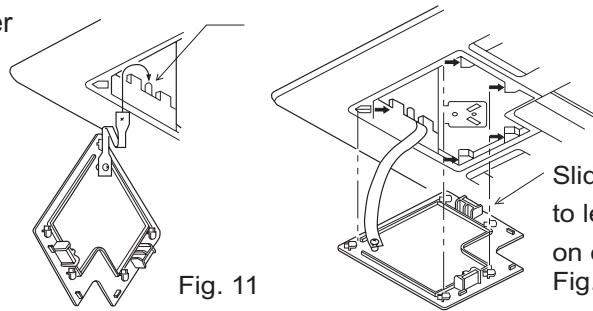

Fig. 11
- (2) Install cover plate on the corner
- ① As shown in Fig. 11 tie the cover plate onto the bolt on ornament plate.
- ② Install cover plate onto ornament plate.